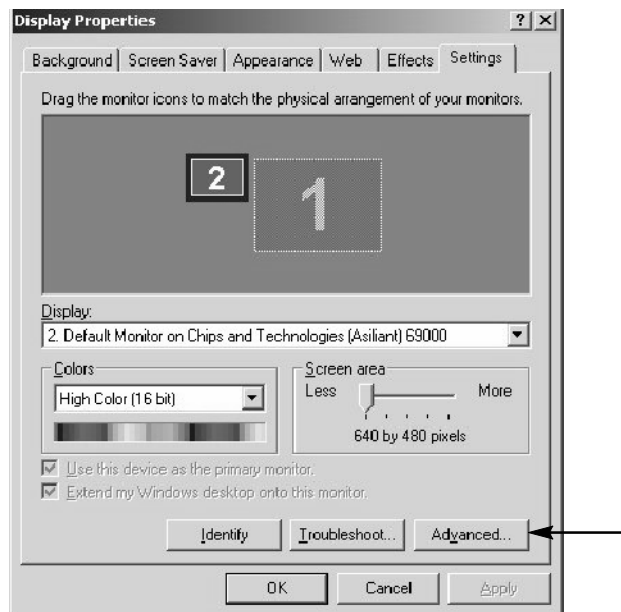

Figure 13: Advanced button
4. Click the Advanced button. See Figure 13.